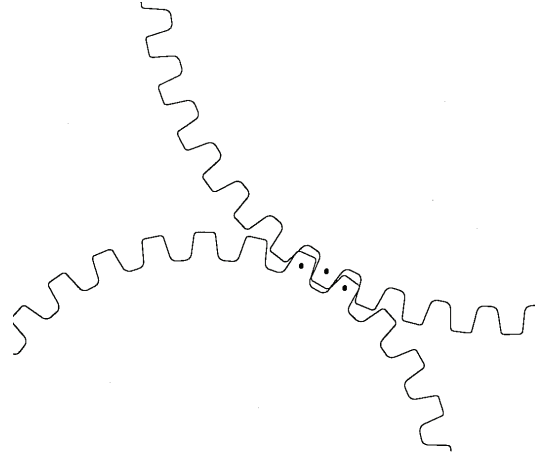

Figure 8. Aligning gear teeth.
Install the balancer shaft by aligning the dots on the balancer shaft gear teeth and the crankshaft gear teeth by rotating the shafts. See Figure 8.
2. Install the camshaft by aligning the dots on the camshaft gear teeth and the crankshaft gear teeth by rotating the shafts. See Figure 8.